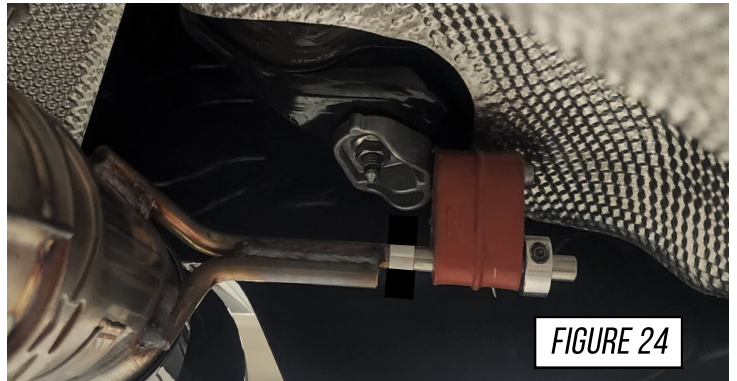

FIGURE 24
Install a provided lock collar on the outside of the driver side rubber gromet, as shown at (A) in **Figure 24**.